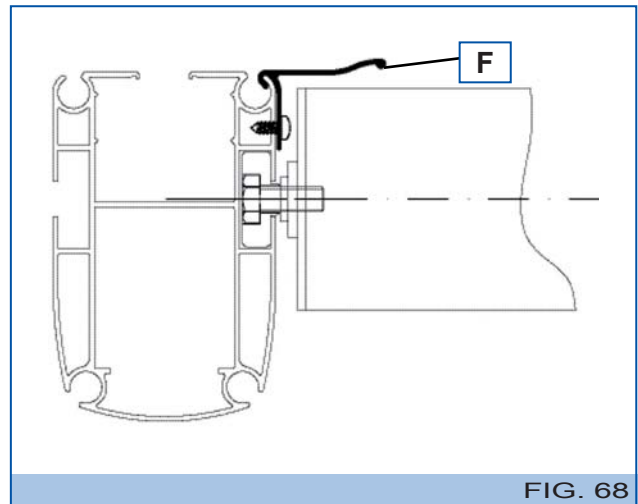

FIG. 68
93=Fasten the closure and drain profile (D) to the guide profile with one screw (C) per profile (see figure 68).